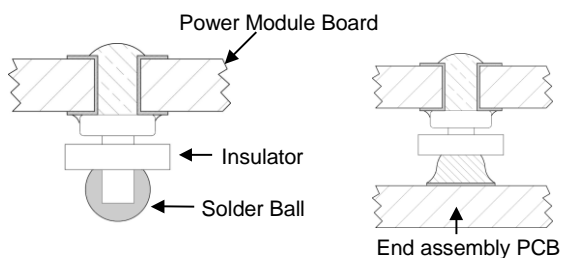

Figure 53. Column Pin Connector Before and After Reflow Soldering.
The surface mountable modules in the SW/SC family use our SMT technology called "Column Pin" (CP) connectors. Figure 53 shows the CP connector before and after reflow soldering onto the end-board assembly.